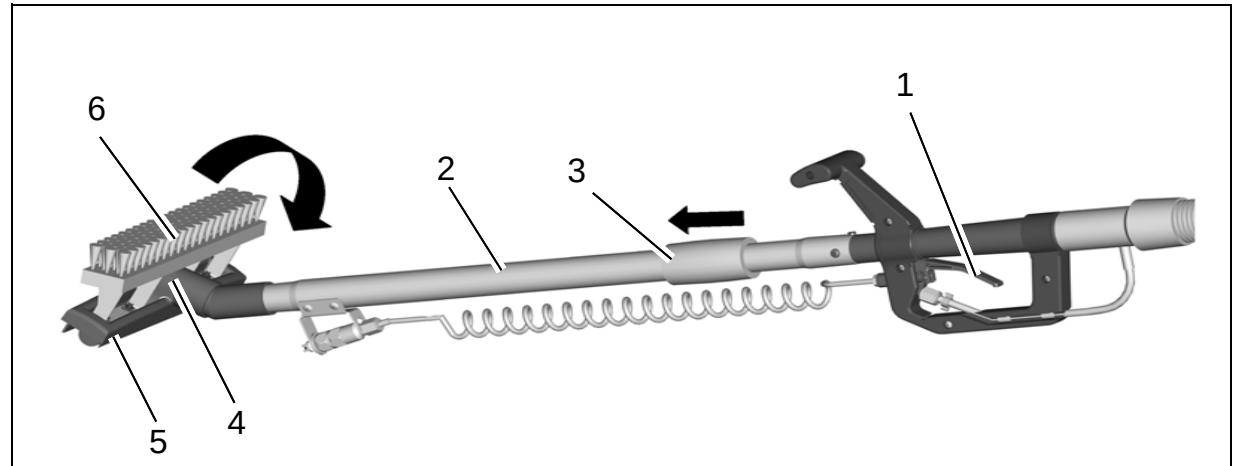

Fig.9
Solution trigger (Fig. 9/1)
Telescoping wand (Fig. 9/2)
Wand extender (Fig. 9/3)
Flip-flop tool (Fig. 9/4)
- Off aisle wand - including telescoping wand, squeegee/scrub brush, and solution spray system . (see Fig.9)